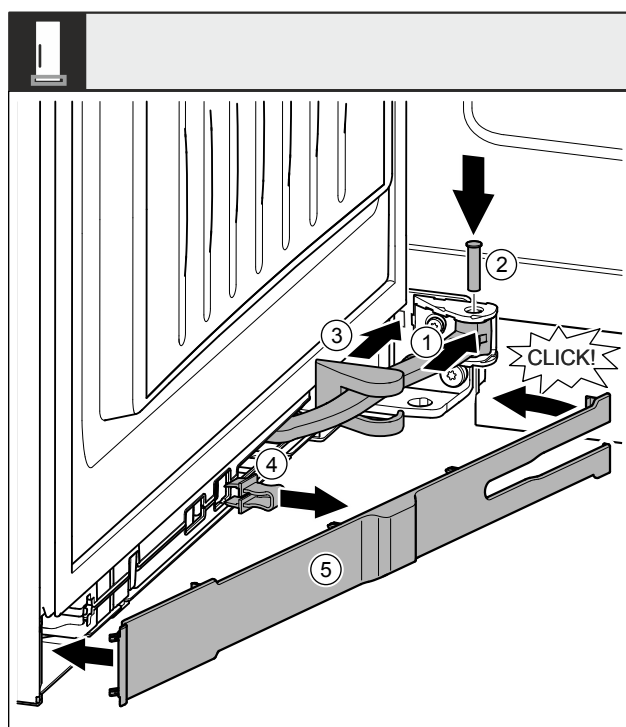

Fig. 47
- Turn the joint Fig. 47 (1) in the hinged suspension.
- Use a screwdriver to insert the pin Fig. 47 (2) into the hinged suspension and joint. In the process, make sure that the latching cam is correctly positioned in the groove.
- Slide the swap bearing block cover Fig. 47 (3) along the joint and install it above the hinged suspension.
- Remove the locking device. Fig. 47 (4)
- Attach the panel Fig. 47 (5) from the handle side and swivel it on.